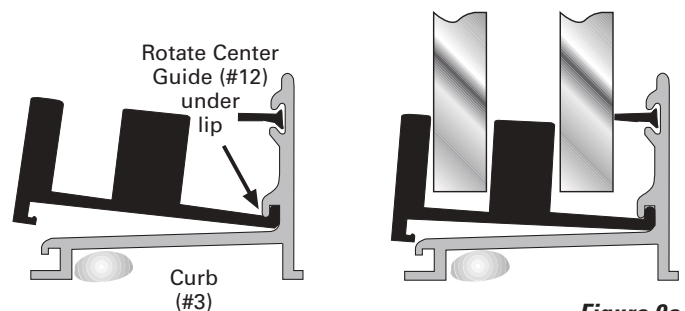

Figure 9a
D. Slide both Door Panels to one side. Peel the paper backing off the two-way tape on the bottom of the Center Guide. Without letting the adhesive tape touch the Curb, carefully insert the front edge of the Center Guide into the groove on the Curb (See **Figure 9a**).